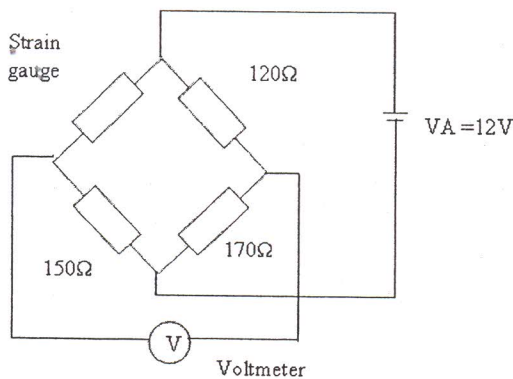

Figure 3: Strain gauge – Wheatstone bridge
- (a) A strain gauge in **Figure 3** is used to measure a force of a system. A conditional circuit is built to convert the resistance value from the strain gauge to voltage. Calculate the voltage output from the bridge circuit if the resistance value of the strain gauge is 50Ω . Voltage supply $V_A = 12V$